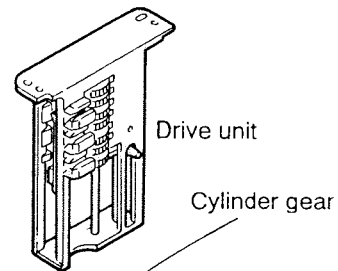

Fig.5-51
3. Pull out the drive unit and cylinder gear (See Fig. 5-51).